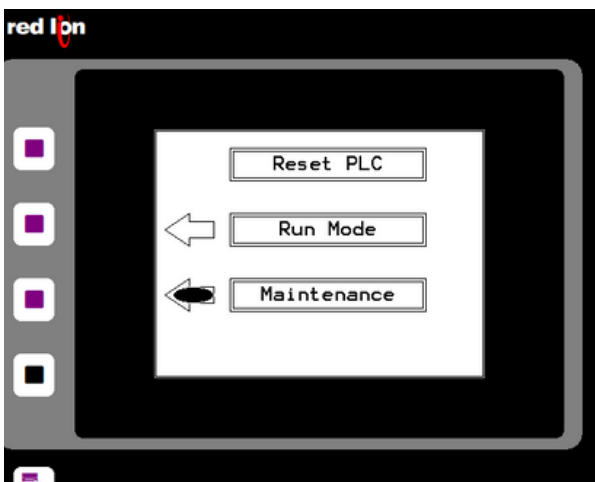

Figure 5.3. Confirmation of maintenance mode selection on the deck service box.
- 5 Select maintenance mode on the deck service box (Figure 5.3).